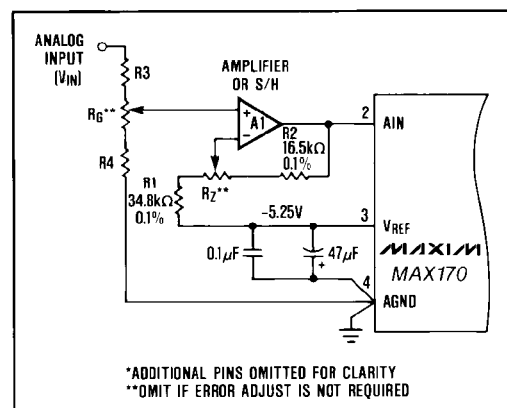
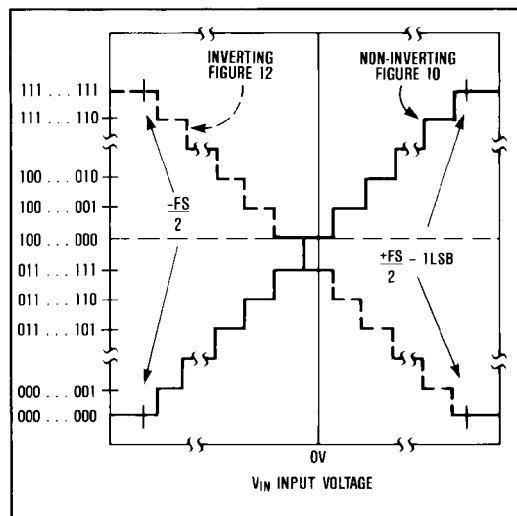
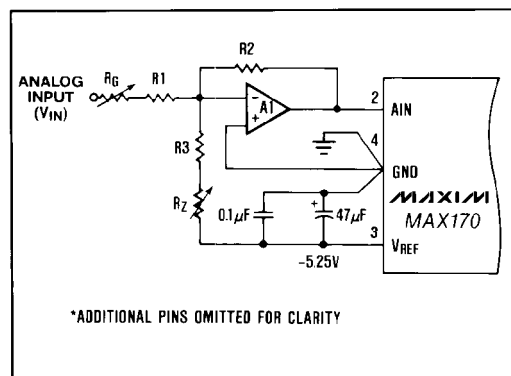

Figure 10. MAX170 Non-Inverting Bipolar Operation
Figure 11. Ideal Input/Output Transfer Characteristics for the Bipolar Circuits Shown in Figures 10 and 12
Figure 12. MAX170 Inverting Bipolar Operation
Figure 10 shows the bipolar operation in the non-inverting mode, where the output coding is offset binary. Figure 11 shows the ideal transfer function for this mode.
**Table 1. Resistor and Potentiometer Values Required for Offset and Gain Adjustment of Figure 10**
Figure 12 shows the bipolar operation in the inverting mode where the output coding is complementary offset binary. Figure 11 shows the ideal transfer function for the circuit in Figure 12.
For Non-Inverting (Figure 10) 1000 0000 0000
For Inverting (Figure 12) 0111 1111 1111
For Non-inverting (Figure 10) 1111 1111 1110
For Inverting (Figure 12) 0000 0000 0001
**Table 2. Resistor and Potentiometer Values Required for Offset and Gain Adjustment of Figure 12**